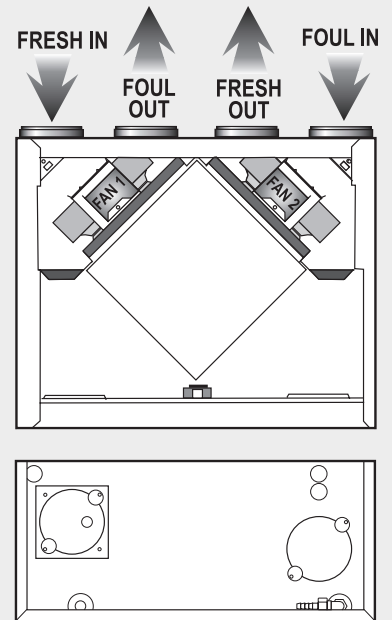

Figure 3
- 4.4.1 With reference to Figures 3 & 4 decide whether the unit is to be installed in the right or left handed configuration. If the handing of the unit is to be changed, proceed as follows:
- 6.1 Four 100/125mm nominal diameter spigots are provided for connection of the ducting (see paragraph 4.3). These must be connected to the supply and exhaust ducts according to left or right hand configuration (refer to Figures 3 & 4).